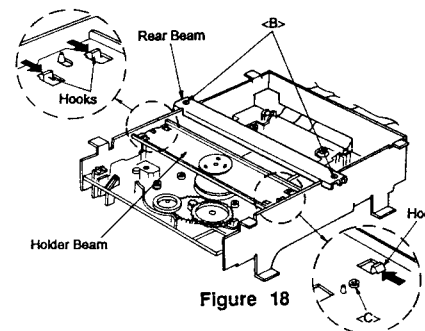

Figure 18
- (1) Remove two screws (3 × 6 mm), then remove the Rear Beam as shown in Figure 18.
- (2) Remove the screw <C> (2.6 × 8 mm) in Figure 18.
- (3) Remove the Holder Beam while pushing three Hooks as shown in Figure 18.